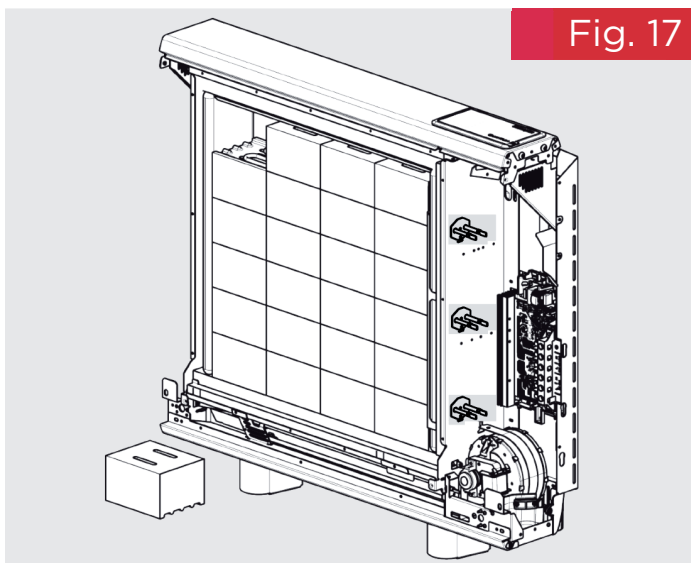

Fig. 17
17. Remember the top row of energy cells must be fitted upside down. (Fig. 17)